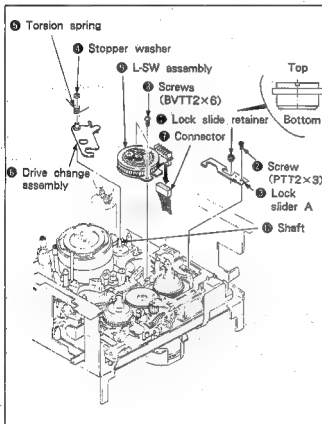

Fig. 7-33.
1. Removal (See Fig. 7-33.)
2. Mounting (See Fig. 7-33.)